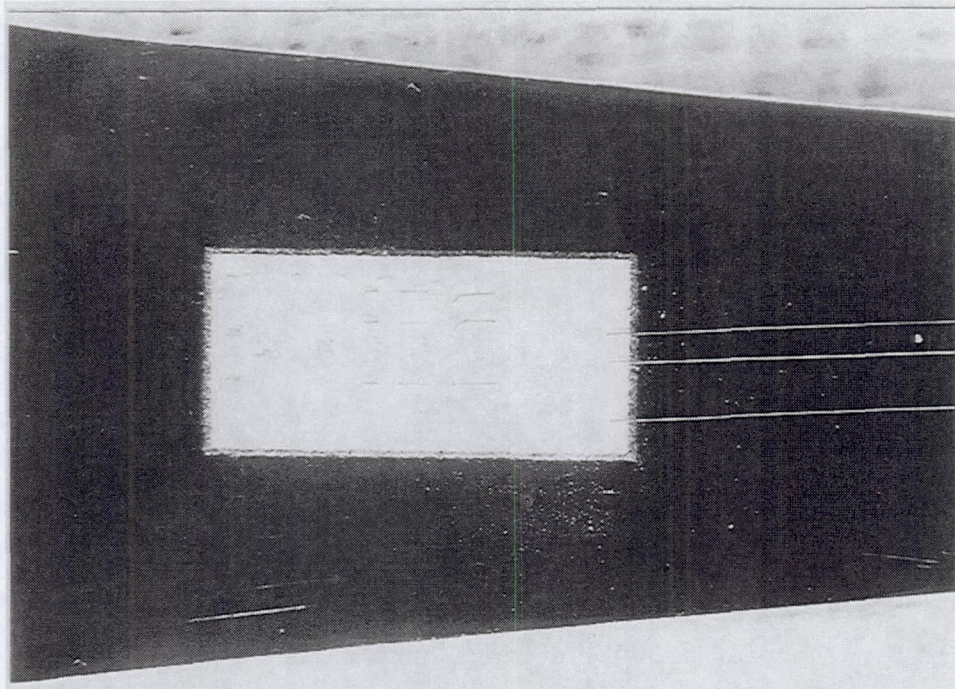

FIGURE 10. Photo showing tack coat applied and tape bars removed.
- Figure 10. Photo showing tack coat applied and tape bars removed.